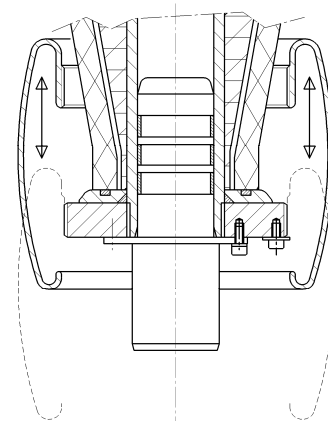

Fig. 15
- Deflector removable upwards: it can be unscrewed upwards (fig. 15).